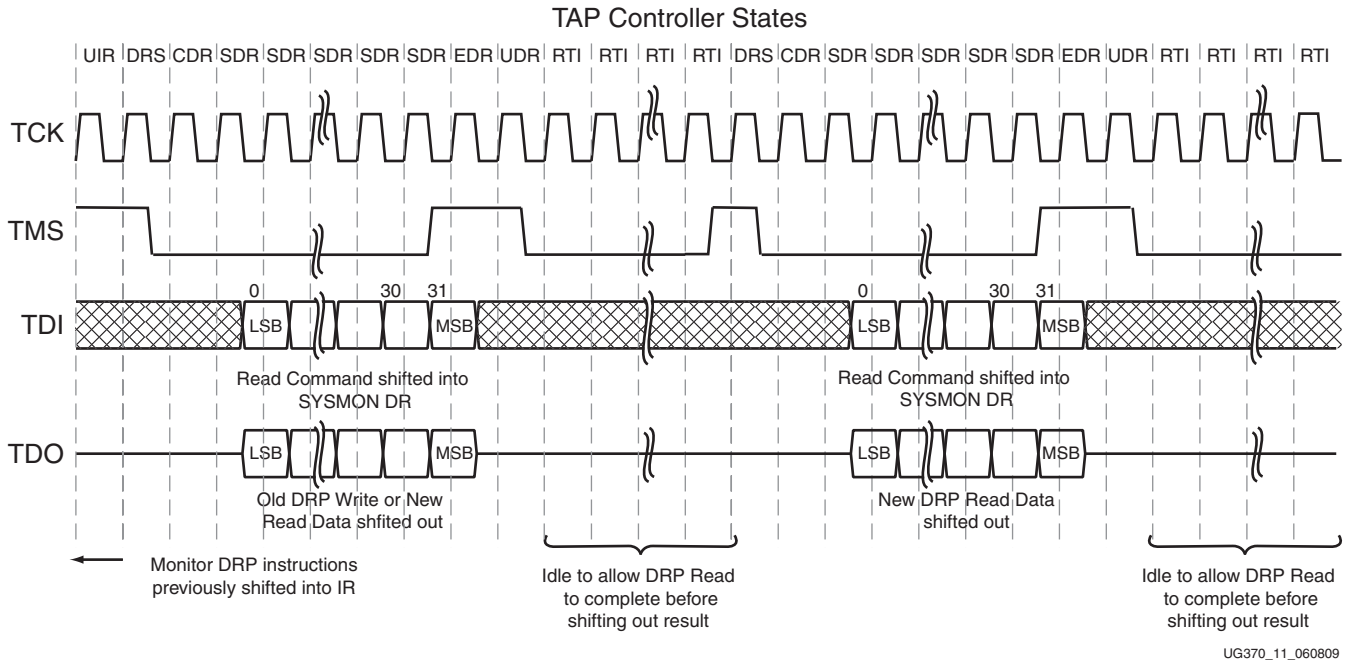

Figure 11: System Monitor JTAG DRP Read Operation
Figure 11 shows the timing for a SYSMON DR Read operation. The IR should contain the DR-scan operation SYSMON instruction. A JTAG Read from the System Monitor DRP is a two-step operation.
- During the DR-Capture phase of the next DR-scan, newly read data is transferred from the arbitrator to the SYSMON DR. This 16-bit data (stored in the 16 LSBs of the 32-bit word) is then shifted out on TDO during the subsequent shift operation (see Figure 11). The timing diagram shows a number of idle states at the end of the first DR-scan operation, allowing the arbitrator enough time to fetch the System Monitor DRP data.
To ensure reliable operation over all operating clock frequencies, a minimum of ten Run-Test-Idle (RTI) states should be inserted. Multiple Read operations can be pipelined, as shown in Figure 11. Thus, as the result of a read operation is being shifted out of the SYSMON DR, an instruction for the next read can be shifted in.